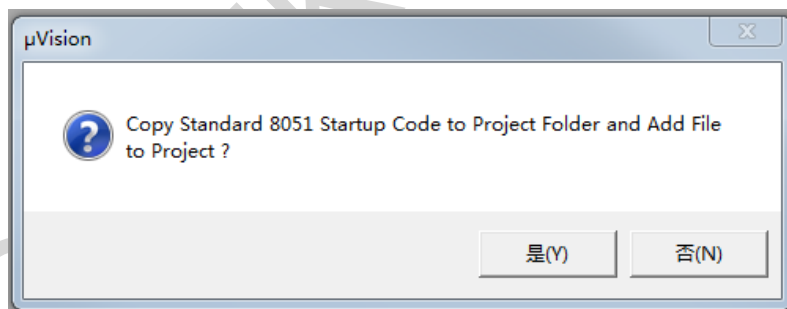

Figure 5. Window for Generating Startup Code
- Step 3, after the project is saved in Step 2, the CPU model selection window pops up as shown in the below figure. In the below figure, select *T8051 core of CAST Inc.*, then click *OK*. The window pops up for users to confirm whether to generate *STARTUP.A51* file as shown in Figure 5.